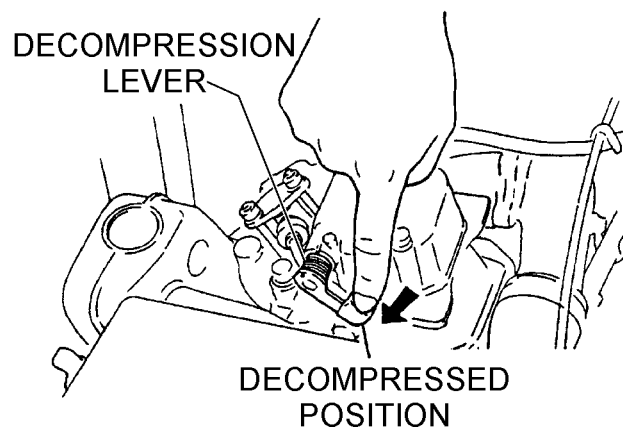

Figure 8. Decompression Lever
4. Press the decompression lever (Figure 8) to release decompression. The decompression lever will return automatically when the recoil starter is pulled.